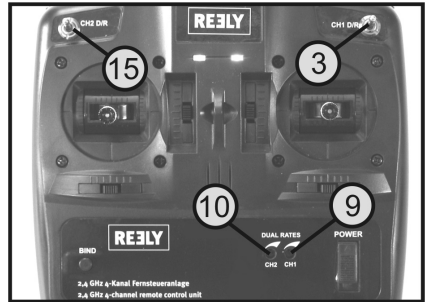

Figure 17
The elevator path limiter is set according to the same progress as for the ailerons, but setting of the elevator path limiter uses the dual rate switch "CH2 D/R" (see figure 17, item 15) and the "DUAL RATES" setting controller CH2 (see figure 17, item 10).